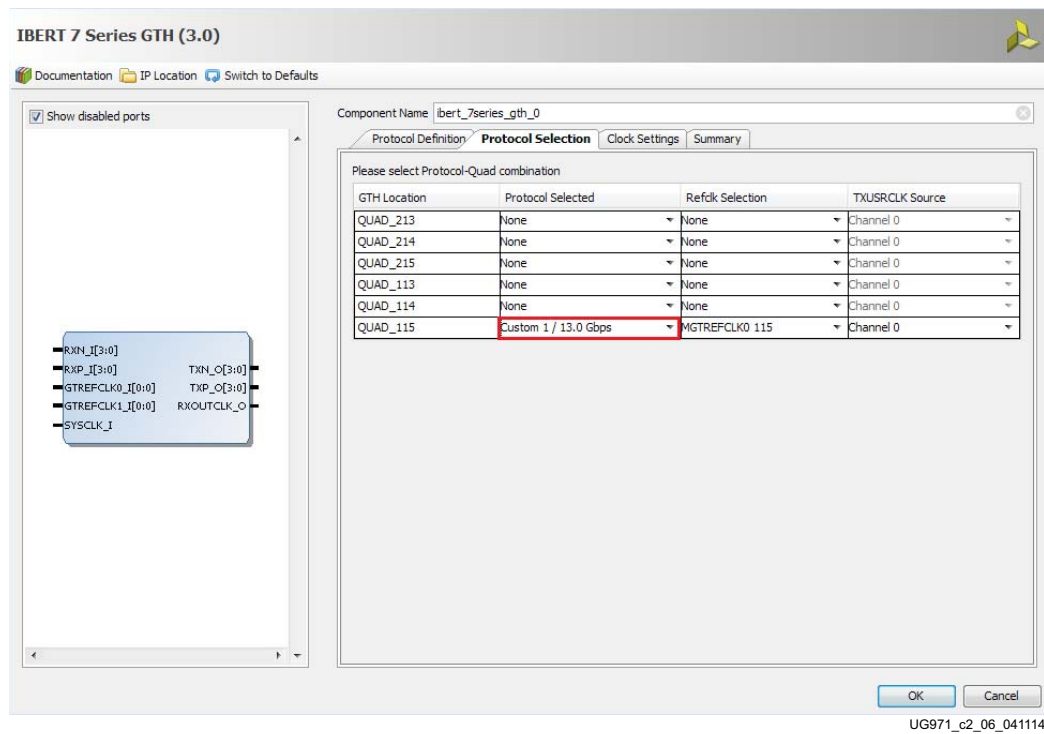

Figure 2-6: Customize IP - Protocol Selection
- In the Protocol Selection tab, use the **Protocol Selected** drop-down menu next to QUAD_115 to select **Custom 1/13.0 Gbps** (Figure 2-6).